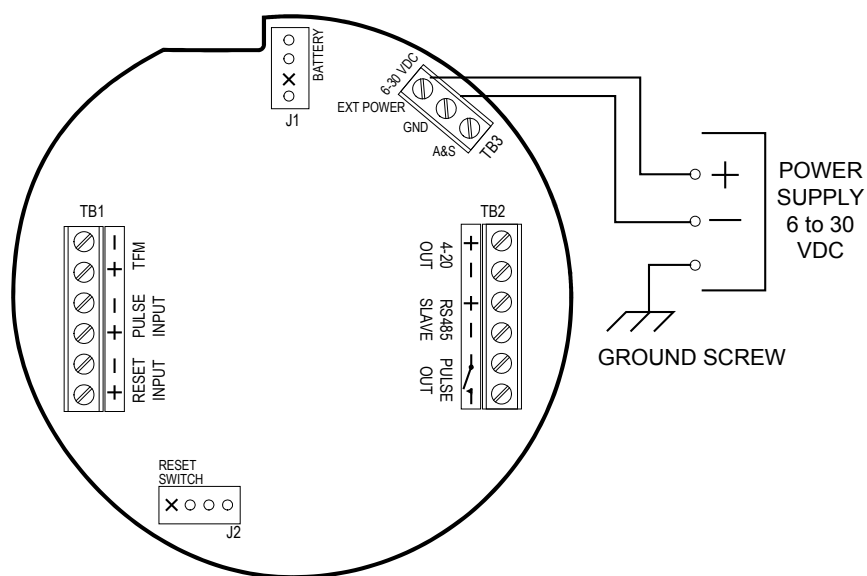

Figure 2.7—External power supply wiring
4. Connect wiring for external power, if appropriate. See Figure 2.7, page 19.
The MC-III WP can be connected to a remote power supply by a two-conductor cable (Figure 2.7, page 19). The power supply and cable must be capable of supplying 6 to 30 VDC @ 10 mA. This capability is available only if the 4-20 mA rate output is not used.
Caution: The instrument must be grounded with a protective earth grounding conductor in accordance with national and local electrical codes. To ground the instrument, connect a ground wire to the internal ground connection screw located inside the enclosure (Figure 2.7). For DC-powered installations, route the protective earth grounding conductor into the enclosure with the incoming power conductors.